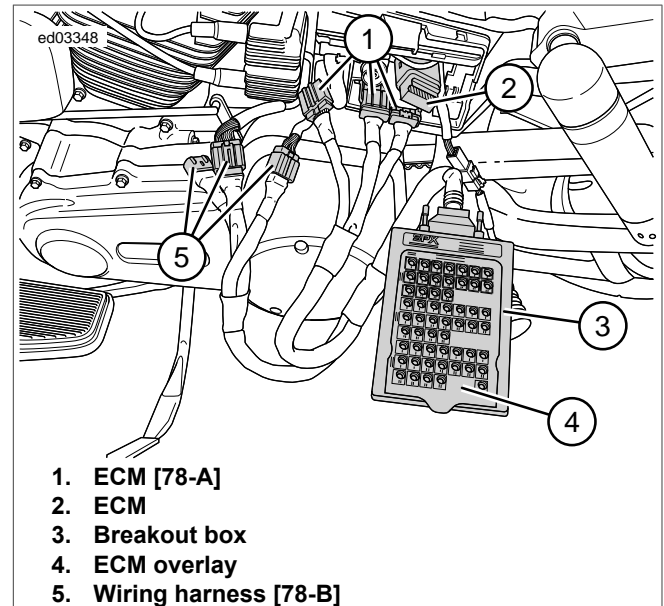

Figure 1-9. ECM Breakout Box Connection
3. See Figure 1-9. Connect BREAKOUT BOX (Part No. HD-50390-1) and ECM CABLE (Part No. HD-50390-4) to connectors.